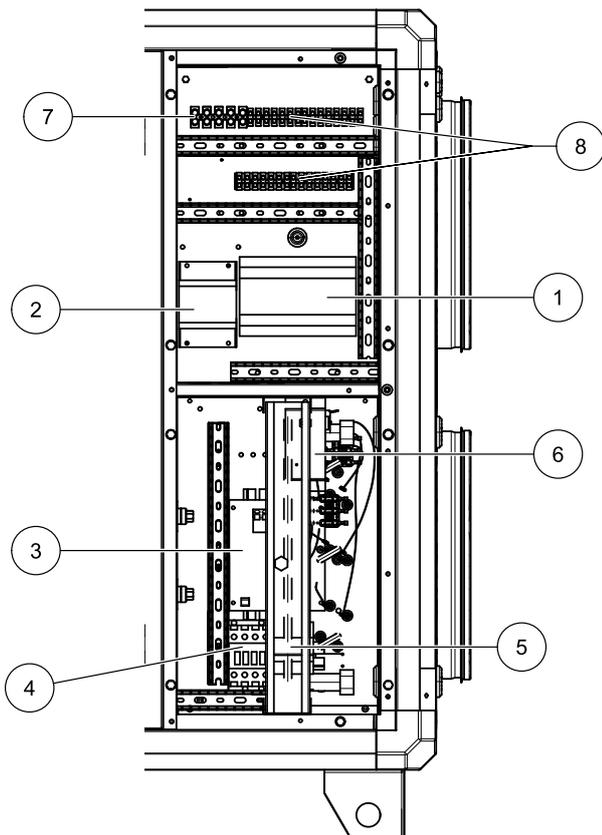
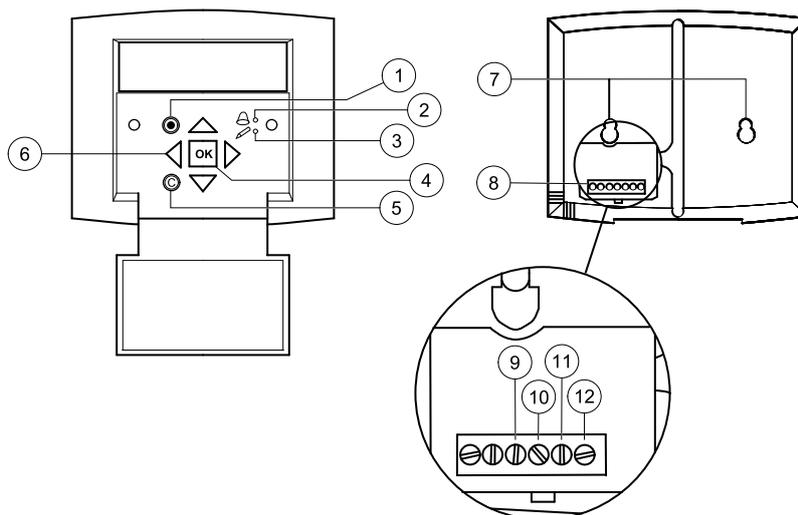

Fig. 4 Internal components
Fig. 5 The control panel
Topvex TX03-06, Topvex SX03-06 are equipped with a built in regulator and internal wiring (figure 4).
The SCP control panel is delivered with a 10 m cable that is connected to the panel and with a fast coupling contact, connected to the Topvex unit. The contact is connected to the **Corrigo** controller in the electrical connection box (pos. 1, figure 4). The cable can be unscrewed in the back of the control panel (figure 5).